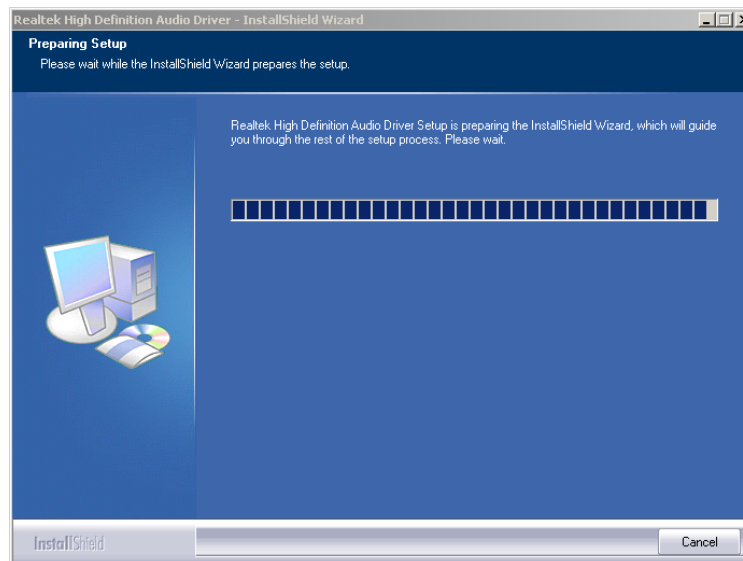

Figure 7-26: Preparing Setup Screen
Step 5: The **InstallShield Wizard** is prepared to guide the user through the rest of the process (**Figure 7-26**).